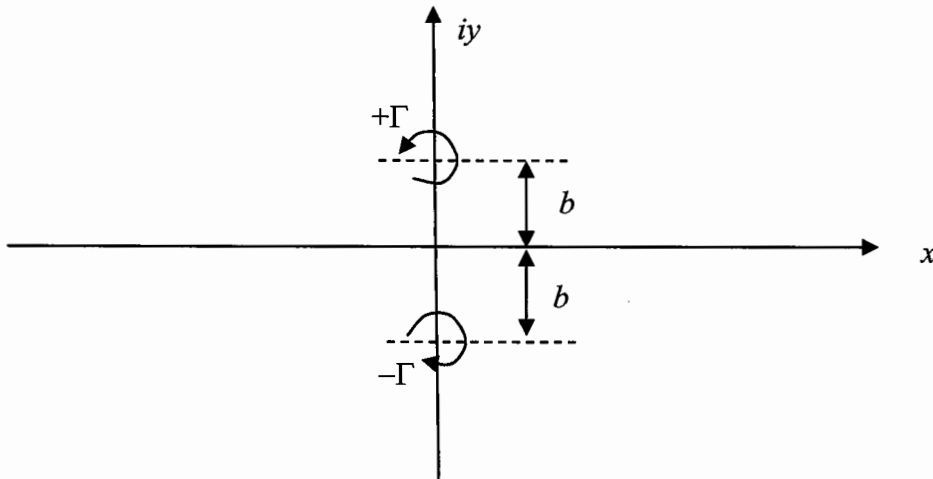

Figure 2
- 2 (a) A pair of vortices are located on the z -plane ($z = x + iy$) at the points $(0, ib)$ and $(0, -ib)$ and have circulations of $+\Gamma$ and $-\Gamma$ respectively as shown in Fig. 2.